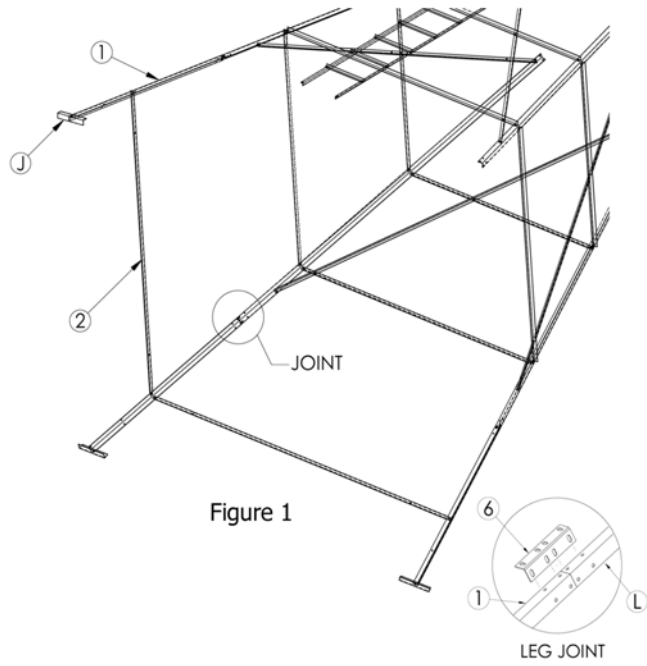
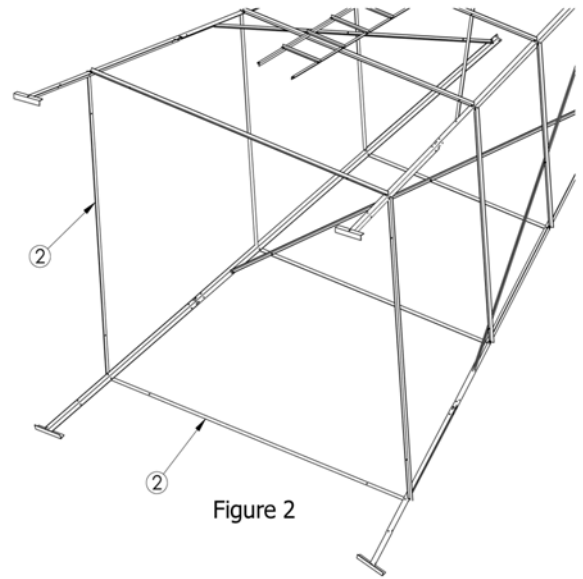

Figure 1
Figure 2
11. Attach the (#1) Extension Legs to the (L) Tower Legs using (#6) Leg Splice. Use the (#2) Horizontal Bracing as necessary for support. (Fig. 1 & Fig. 2)